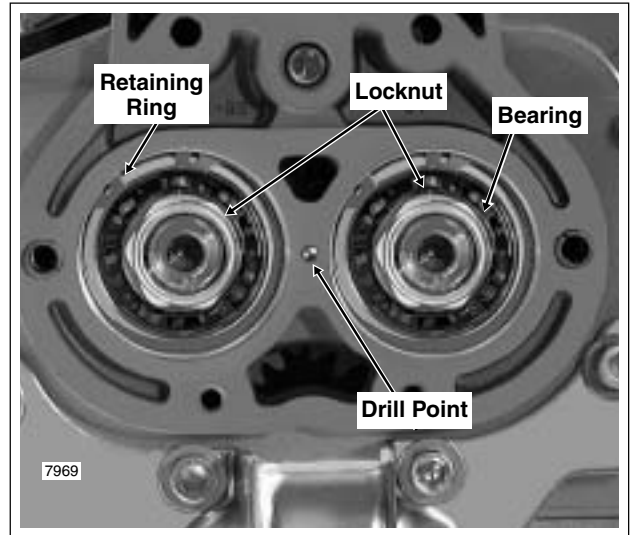

Figure 7-23. Side Door Bearings
*Note that one side of the retaining rings are beveled. Always install the ring with the beveled side opposite the bearing. Side doors using the beveled retaining rings are marked with a "drill-point" hole between the bearing bores. See *Figure 7-23*.*
- Install a spacer and locknut on the threaded end of each shaft and tighten the nuts until finger tight. See Figure 7-23. Final tightening is performed under INSTALLATION, steps 4 and 5.
5. With the transmission locked, tighten the mainshaft and countershaft locknuts to 45-55 ft-lbs (61-75 Nm). See Figure 7-23.